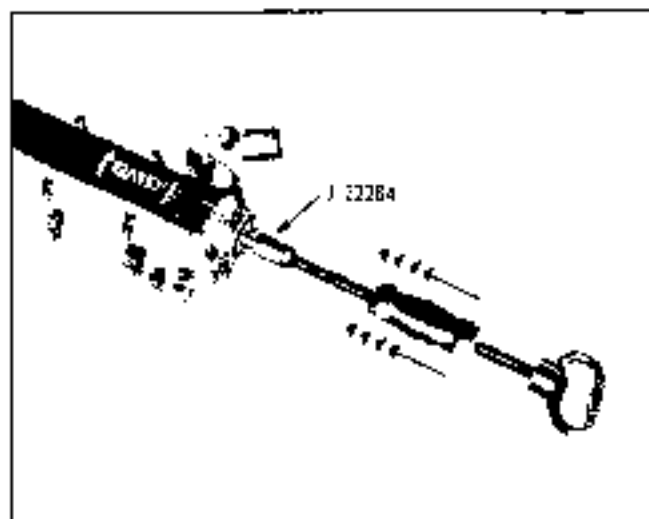

Fig. 6-15 Removing Camshaft From Cover
3. Using J 22234 adapter and slide hammer J 2619 carefully drive camshaft rearward from rocker arm cover (Fig. 6-15).